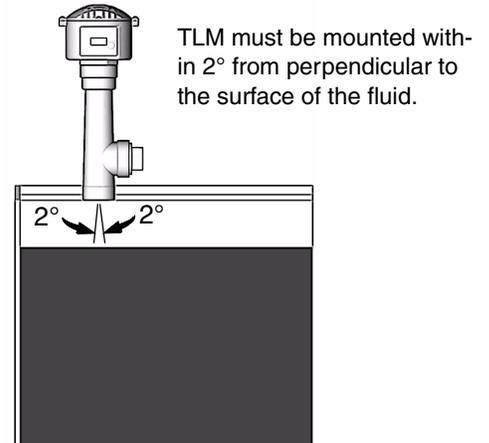

FIG. 6
2. The TLM must be mounted within 2 degrees of the surface of the fluid. A level that measures degrees should be used. Place the level on the top of the pipe fitting on the tank. If outside the 2 degree specification, the fitting should be changed. Graco recommends that the height of the tank fitting should not exceed 1/2 in. (1.27 cm). The fitting height can be up to 2 in. (5.08 cm), provided the fitting is within 2 degrees of the surface of the fluid. Also, the taller the tank, the more critical the 2 degree specification becomes. See FIG. 6.